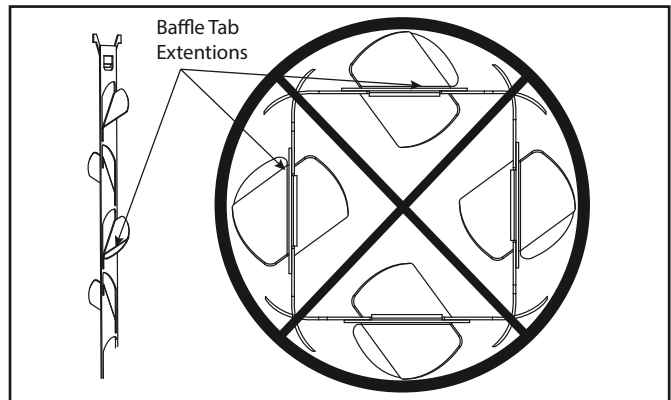

FIGURE 24
- For 100 gallon nominal capacity unit, baffle tab extensions should be oriented toward the outside of the heater when installed correctly. Refer to Figure 24 for correct placement of baffles.